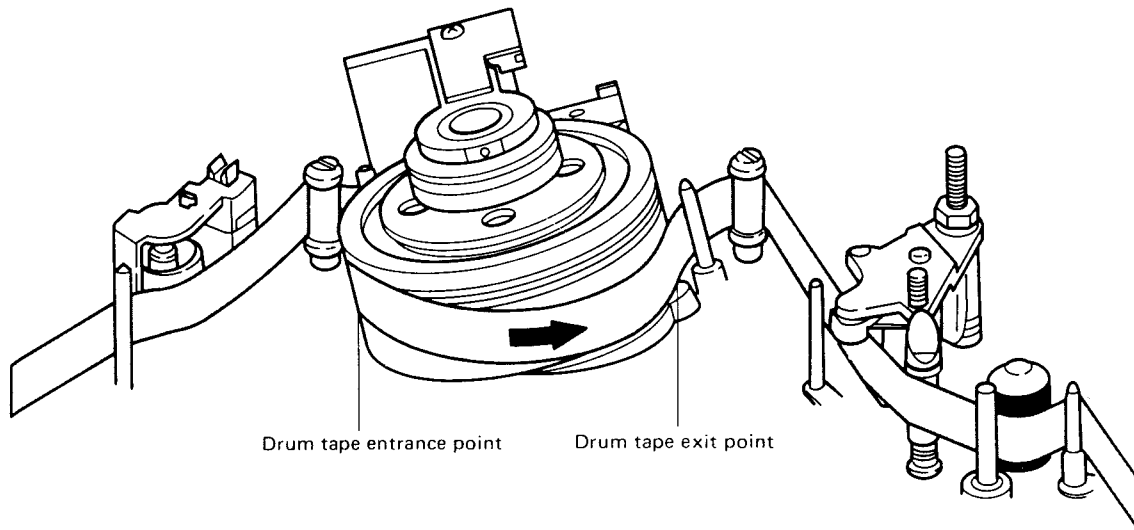
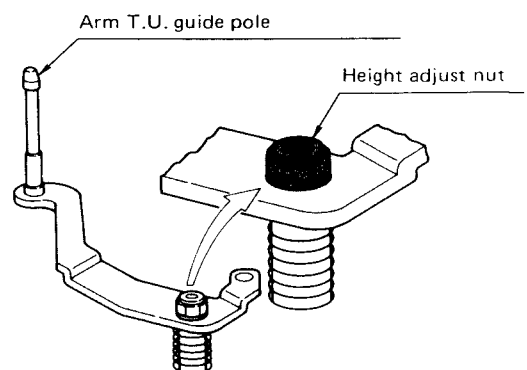

Fig. 4-11
Fig. 4-16
- 4) Should the tape be creased or twisted at the arm take up guide pole, rotate the height adjusting nut until the crease or twist on the tape disappears. (Refer to Fig. 4-11 and Fig. 4-16.